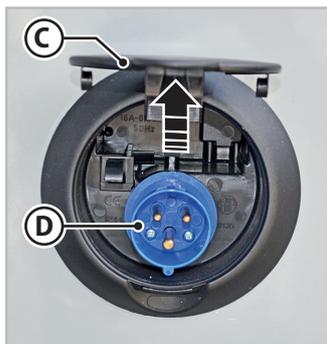

Fig.6.29 - 220 V power supply socket
2. Lift the cover (**C** - Fig.6.29) of the socket (**D** - Fig.6.29) located on the side of the vehicle.
3. Connect an external cable of an appropriate size and approved type to the socket (**D** - Fig.6.29).